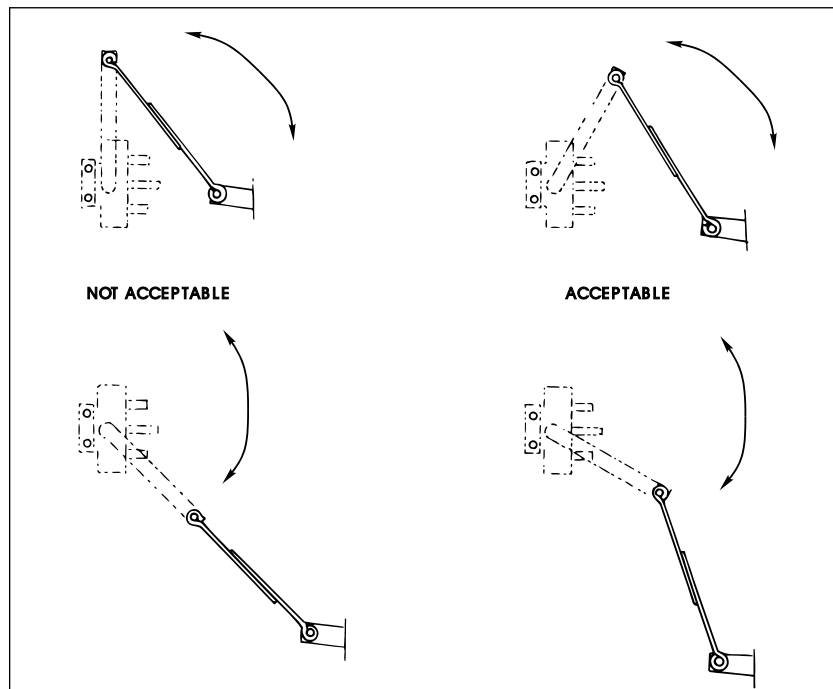

Figure 39. Height control component travel
3. Articulate the suspension through its entire travel to ensure that adequate component clearances have been provided. Special attention should be paid to both the height control valve linkage (Figure 39) and the height control valve arm length as specified in the supplied suspension assembly drawing.